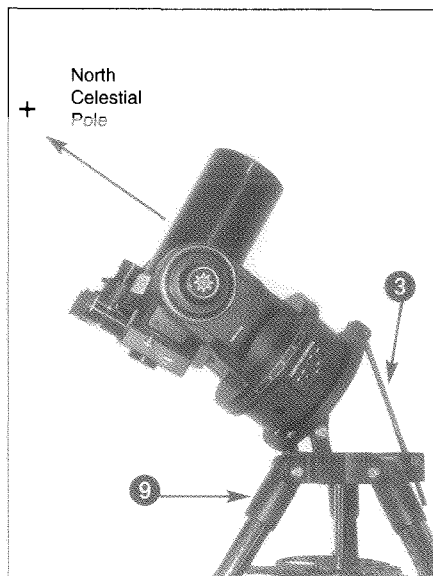

Fig. 7: Example of Polar Alignment.
2. Turn the tripod, so that the face of the tilt-plate points North (Figs. 7 and 8). If you attach the telescope to the tripod indoors, be sure to orient the face of the tilt-plate to point North after moving the telescope outdoors. Equivalently, point the tripod leg (9, Fig. 7) North. This is the leg *opposite* from the latitude control bar (3, Fig. 7).
5. If you have not already done so, orient the tripod leg (9, Fig. 7) so that it is pointing due North (if the location of Polaris, the North Star, is known, point the telescope directly at Polaris. Observers located in the Earth's Southern Hemisphere must point the telescope due South). (See Figs. 7 and 8.)